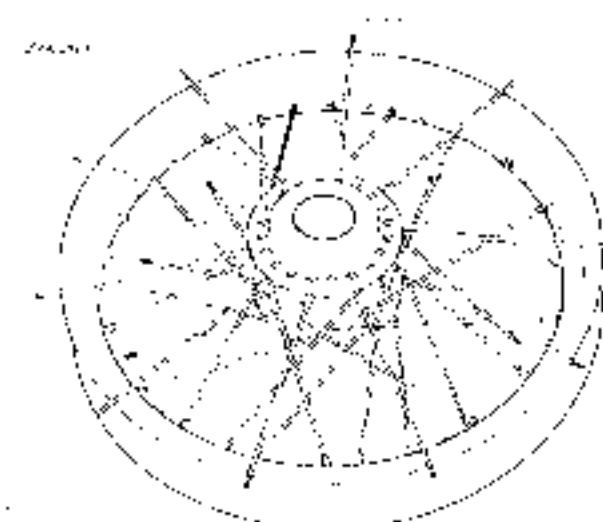

Figure 2-38. Beginning Spoke-Top Flange Inner
- a. See Figure 2-38. Verify spoke reaches spoke nipple and secure spoke by hand. Follow pattern to complete top flange inner spokes (long head).